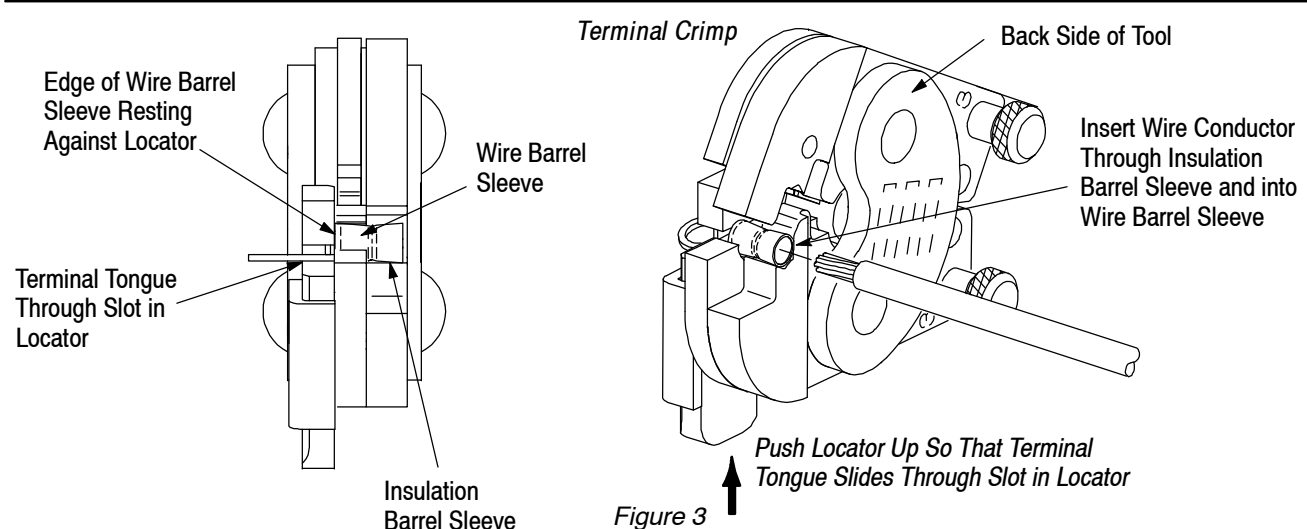

Figure 3
2. Push the locator up and, from the FRONT side of the tool, insert the terminal or splice wire barrel sleeve into the crimping jaws making sure that the edge of the wire barrel sleeve rests against the locator. See Figures 3 and 4.
2. Place terminal or splice in crimping jaws, as shown in Figures 3 and 4.
3. Insert **unstripped wire only into the insulation barrel** of the terminal or splice. See Figures 3 and 4.